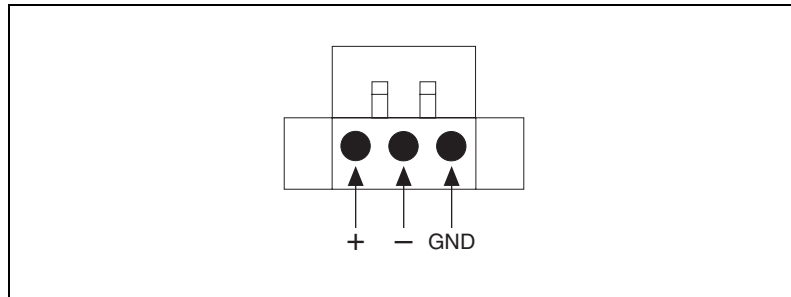

Figure 2-1. Power Connector
2. Connect the power connector to 24 VDC power lines. Be sure to connect the positive, negative, and ground lines as shown in Figure 2-1. The power lines can be from either a power adapter or in-house power source.